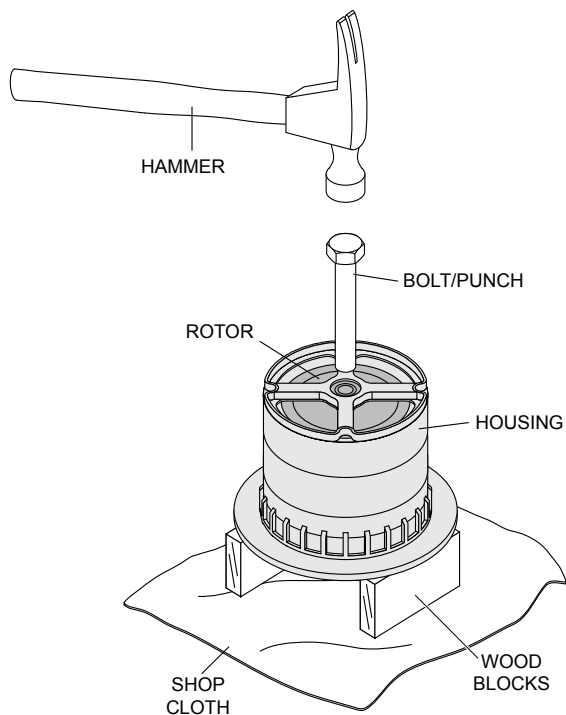

Figure 21. Release Generator Rotor From Housing
1. Free the rotor from the housing by placing the generator disc plate down on top of two wood blocks. Place a shop cloth below to keep the rotor clean. Place a bolt or punch in the center of the rotor bearing and hit with a hammer to dislodge the rotor. See Figure 21